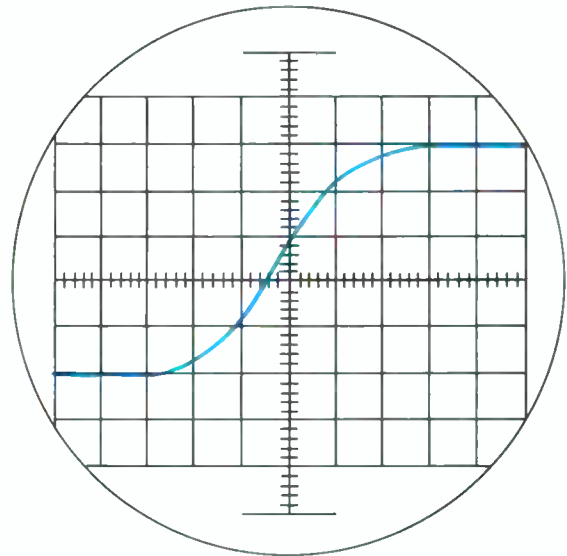

Fig. 4
1. Refer to Fig. 4. What is the rise time for a vertical scale of 1 volt/division and a horizontal scale of 50 ns/division?